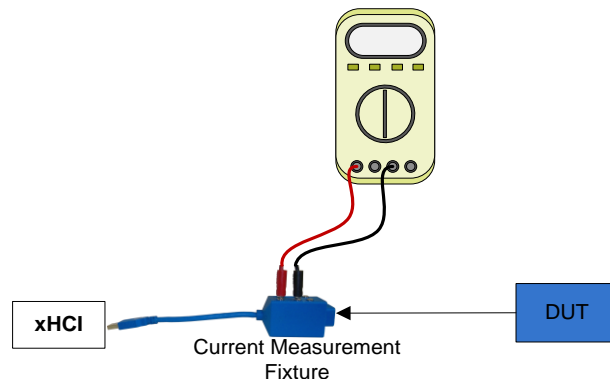

Figure 2-9: Peripheral Current Measurement Topology
- Connect a SSP Current Measurement Fixture between DUT and xHCI host as shown in Figure 2-9.